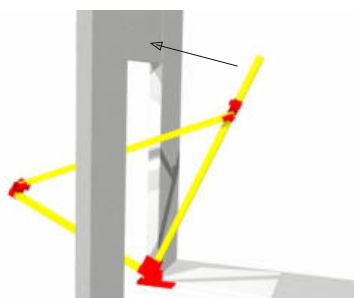

Fig. 14: Tipping the triangular structural part until it touches the lintel
The triangle is placed up to the edge of the threshold and lowered towards the centre of the shaft until the vertical side of the triangle lies flat against the upper lintel (fig. 14/pos. 1).